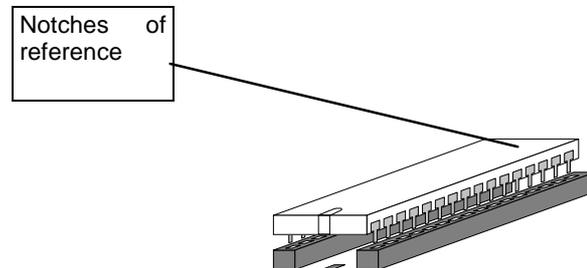

Fig. 27 Position of the EPROM
- EPROM polarity (see Fig. 27);